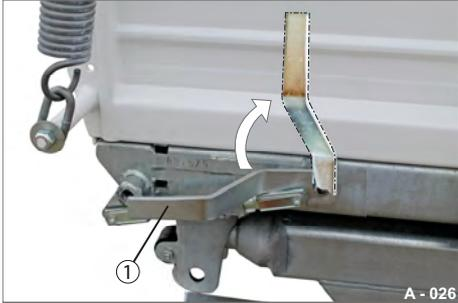

Fig. 28 Unlock central locking system
- ▶ Grip the lever (Fig. 28/1) and swing it all the way up.